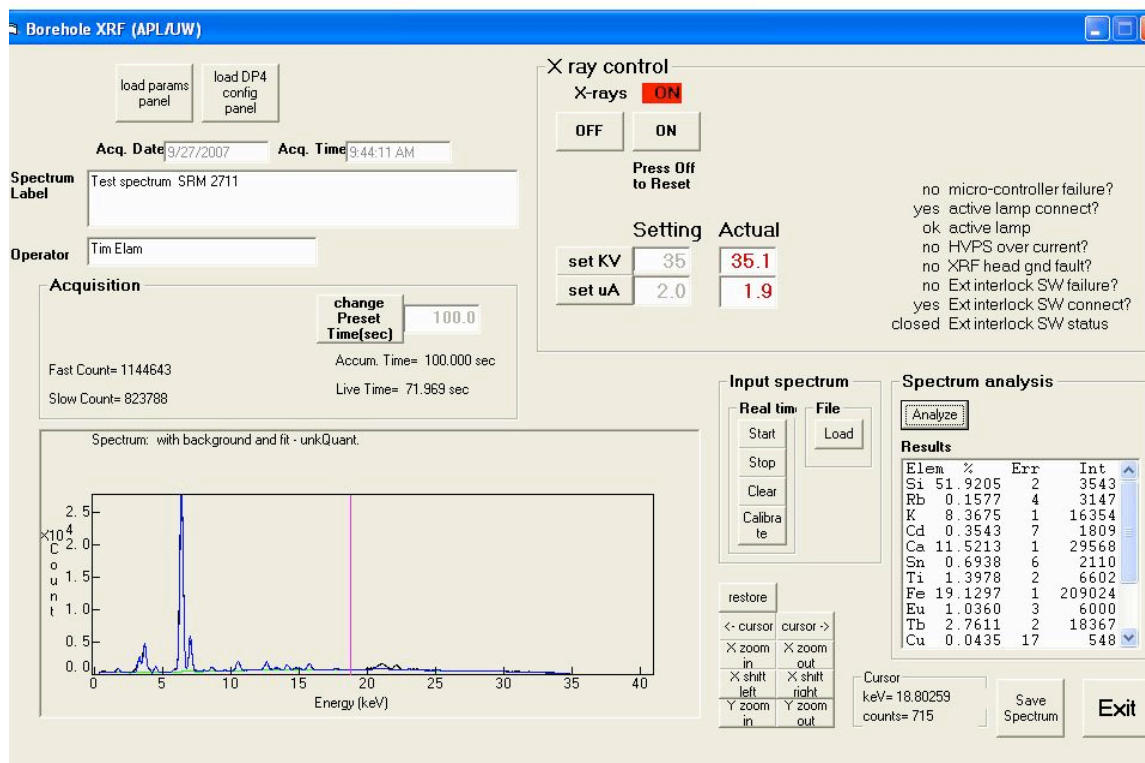

Figure 7. View of spectrum analysis display
12. To determine which elements are present in the sample, click the “Analyze” button. After several seconds, the plot box will show the background and spectrum fits and the elemental analysis will appear in the spectrum analysis box (Figure 7).